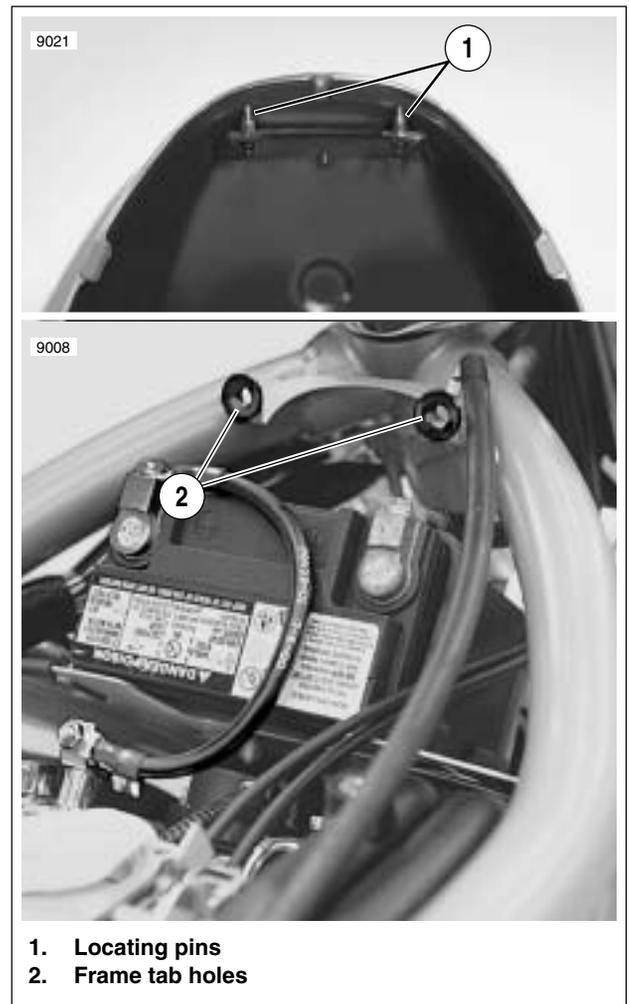

Figure 1-9. Airbox Cover
14. See Figure 1-9. Position the airbox cover with the locating pins (1) in the holes (2) on the frame tabs.